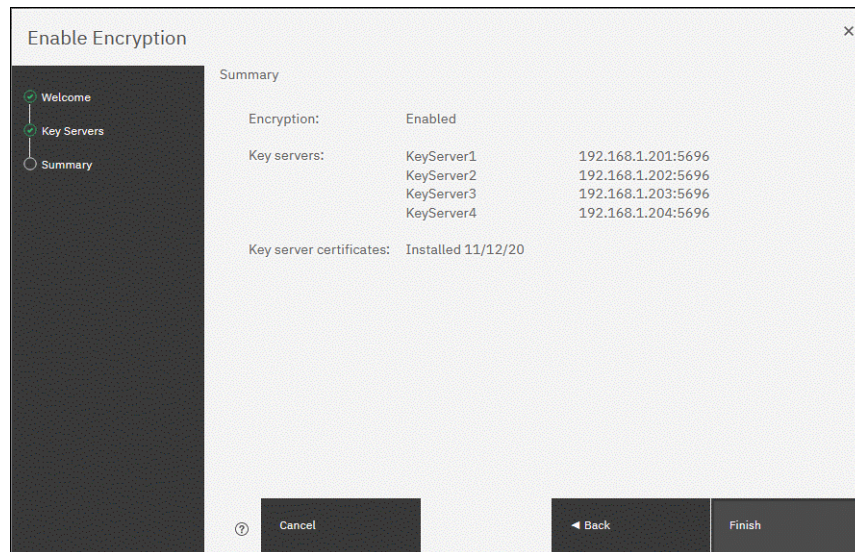

Figure 12-43 Finish enabling encryption using SafeNet KeySecure key servers
- The key server configuration is shown in the Summary tab, as shown in Figure 12-43. Click **Finish** to create the key server object and finalize the encryption enablement.